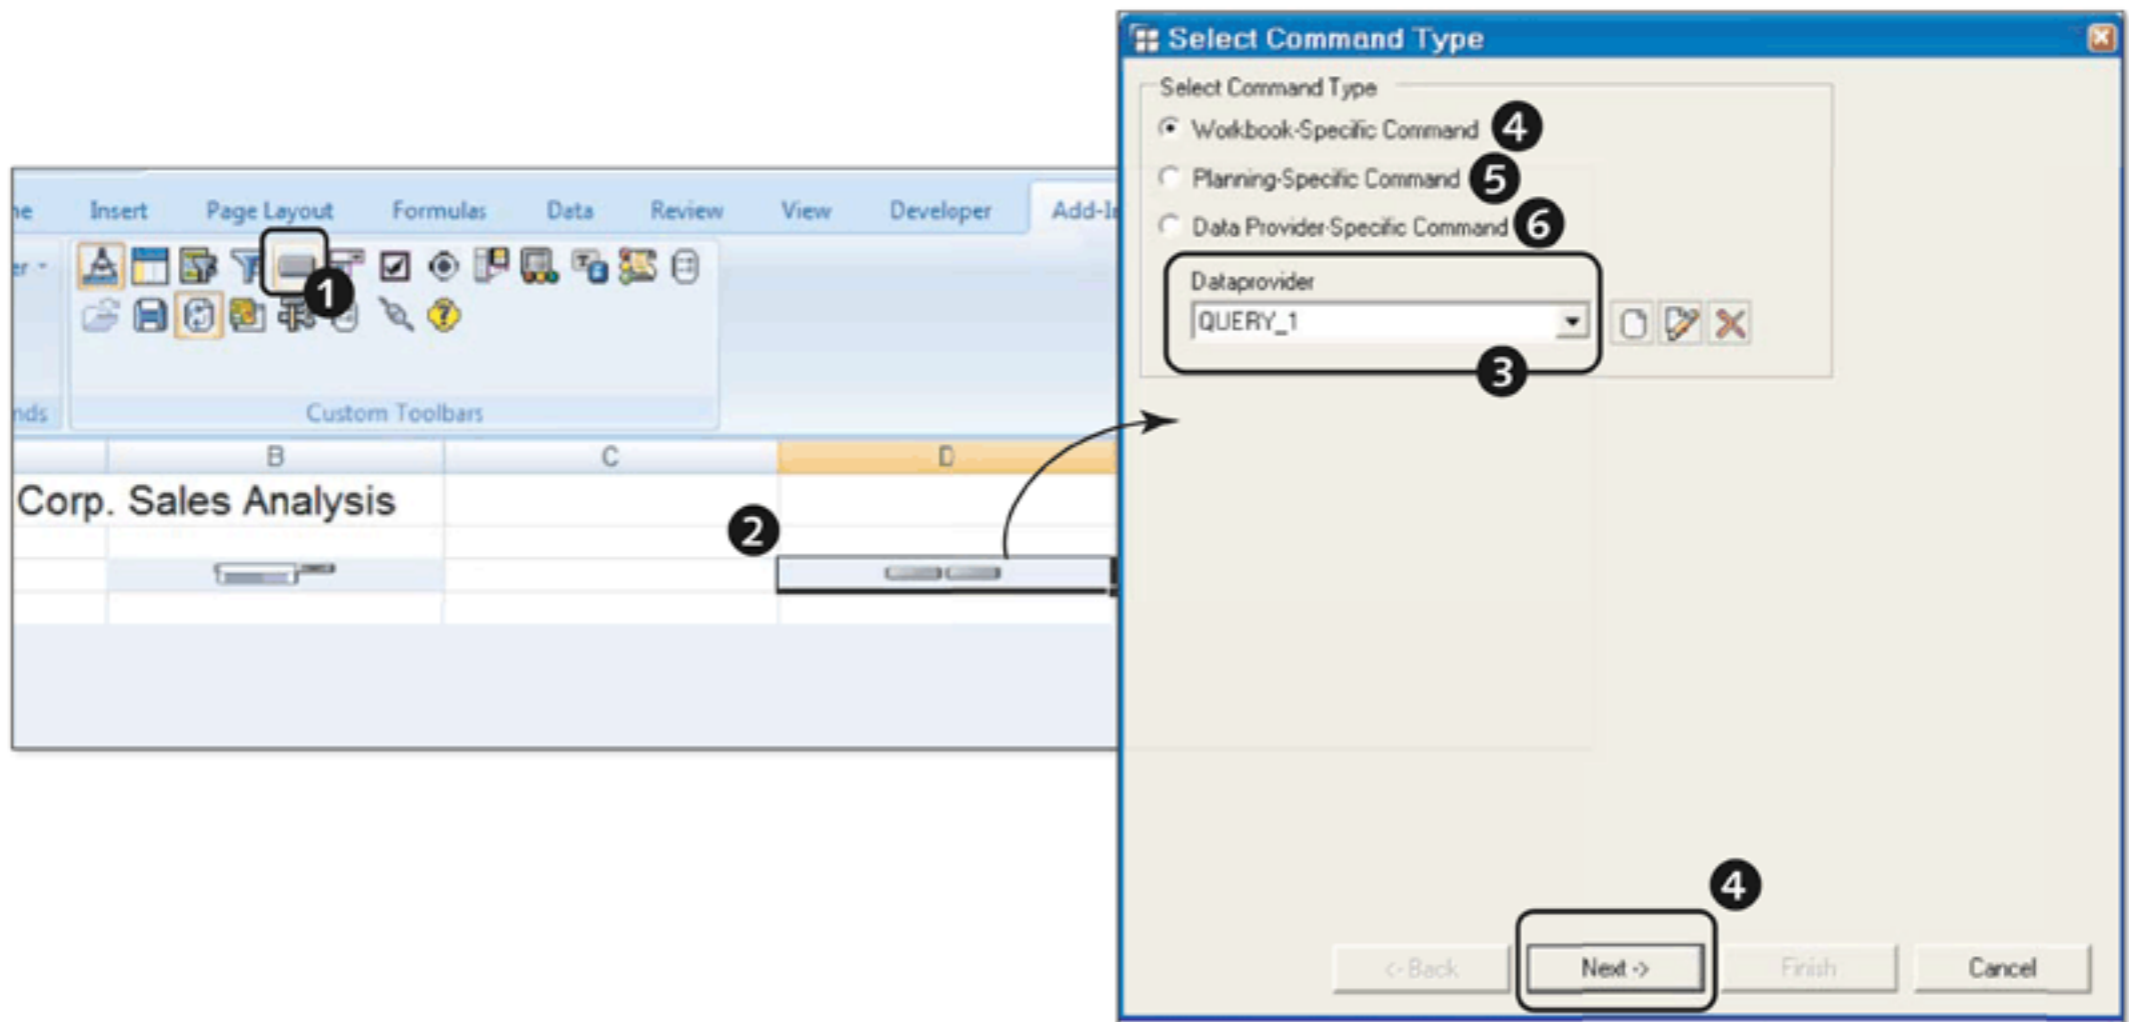

Figure 10.34 Insert Button Design Item
Now, insert a button design item in the workbook using the function button from the DESIGN toolbar (1 of Figure 10.34). Double-click on the newly inserted button (2) in the workbook to call the properties screen for it.